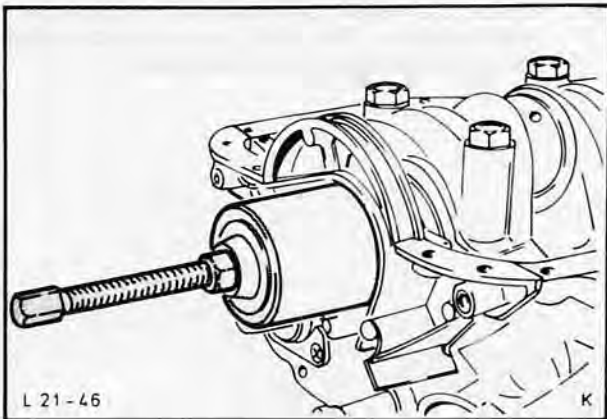

Fig. 103. Centre timing cover, using Special Tool 21-009-A
37. Align crankshaft timing cover with new oil seal and new gasket on sump mating surface, using Special Tool 21-009-A, Fig. 103, to avoid damage to sealing lip. Torque timing cover as specified in Technical Data.